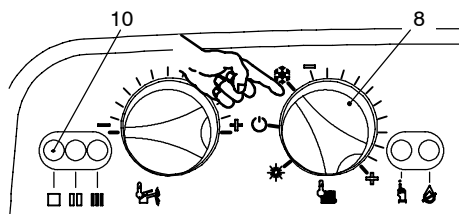

Fig. 2.4
- 2 Turn on the electricity supply to the boiler, switching on the fused spur isolation switch. The appliance operation light 10 (Fig. 2.4) will flash every 4 seconds (stand-by condition).
- 3 If the boiler is to be used for c.h. and d.h.w. operation the function selector 8 as in Fig. 2.4. The appliance operation light 10 will flash every 2 seconds (operating boiler).